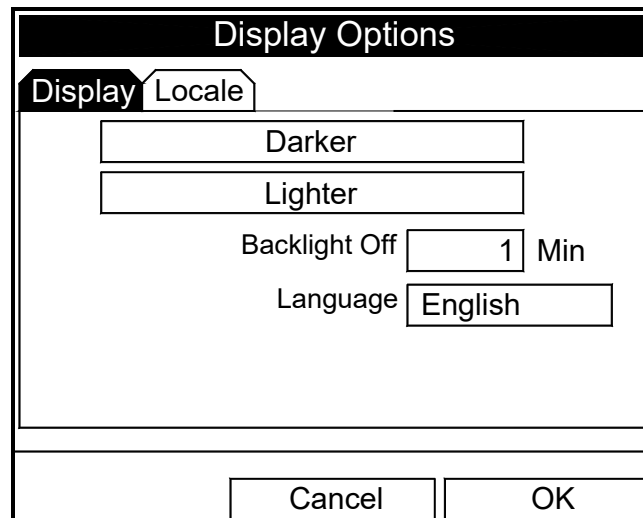

Figure 64: Display Options Window – Display Tab
1. From the Meter menu, scroll to the Contrast entry and press **[ENTER]**. The Display Options window opens on the Display tab, as shown in Figure 64 below. (From the Format tab, press the **[◀]** key to move to the Display tab.) To step through each parameter, press the **[▼]** key.
1. From the Meter menu, scroll to the Backlight entry and press **[ENTER]**. The Display Options window opens on the Display tab, as shown in Figure 64 on page 56.
- To confirm the entries and return to Operate mode, press **[F3]** (OK). The CTF878 returns to Operate Mode.